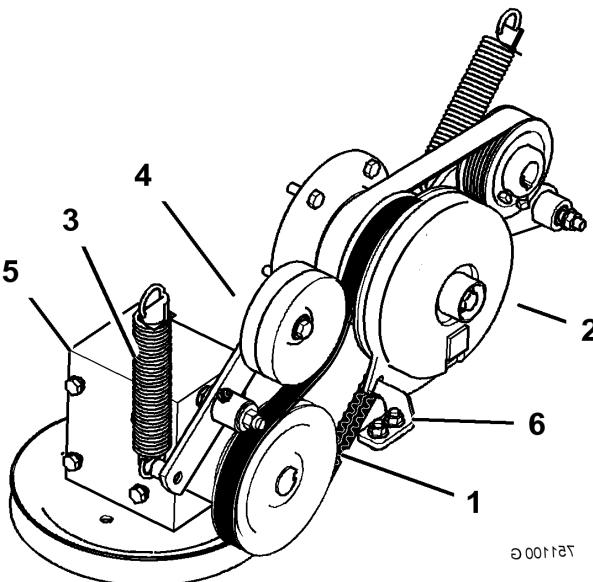

Figure 57
- 4. Remove the spring from the idler arm (Figure 57).
- 7. Install the PTO drive belt around the clutch pulley and the gearbox pulley (Figure 57).
- 9. Install the spring to the idler arm (Figure 57).